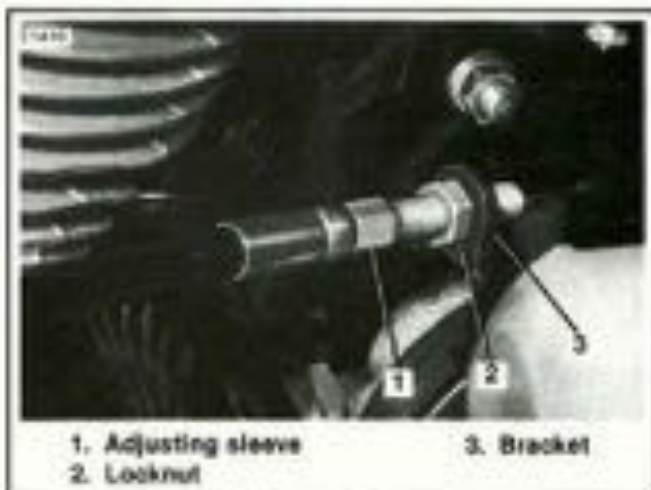
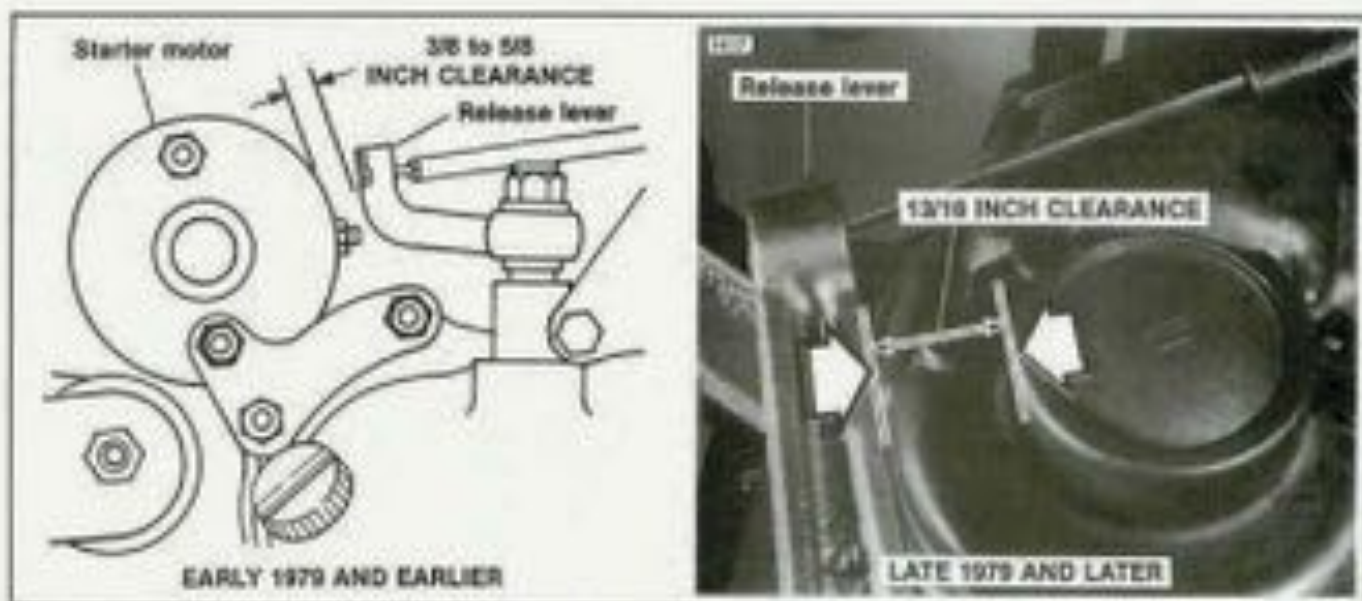

Figure 6-22. Clutch Cable Adjustment
Figure 6-23. Release Rod Measurement
1. See Figure 6-23. Move the release lever forward as far as it will go. Measure the clearance as shown. If measurement is equal to the distance shown, proceed to Step 6. If measurement is not equal, proceed with Steps 2 through 5.
2. See Figure 6-22. Loosen the locknut (2). Turn the adjusting sleeve (1) all the way into the bracket (3).
4. See Figure 6-22. Turn the adjusting sleeve (1) outward until the proper measurement as shown in Figure 6-23 is obtained. Tighten the locknut (2).